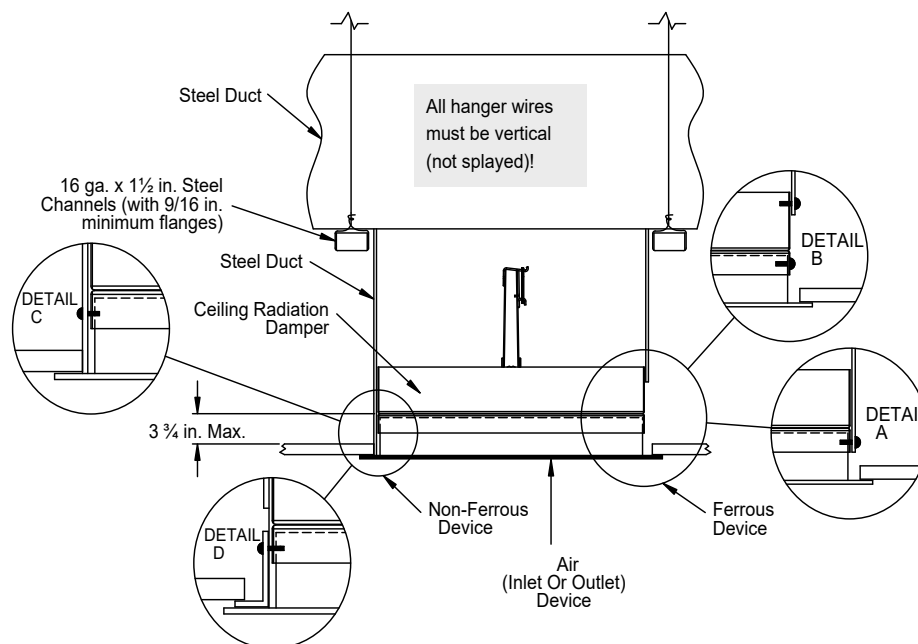

Figure 5
1. Ceiling radiation damper and air device neck may be connected directly to the duct drop (see **Detail A, Figure 5**).
2. Ceiling radiation damper may be connected directly to the air device neck and then the duct drop connected to the damper (see **Detail B, Figure 5**).
1. The steel duct drop should extend to the bottom surface of the ceiling membrane and the opening in the ceiling membrane (see General Information, Ceiling Penetrations) should be equal to the outside of the duct drop (see **Detail C, Figure 5**).
2. A steel angle should be attached to the bottom of the ceiling radiation damper and span the gap from the ceiling radiation damper to the bottom of the ceiling membrane. The steel angle should overlap the ceiling membrane (see **Detail D, Figure 5**).
Models CRD-1, CRD-1LP, CRD-2, and CRD-60 may be installed as shown in **Figure 5** (Model CRD-1 & CRD-1LP illustrated).